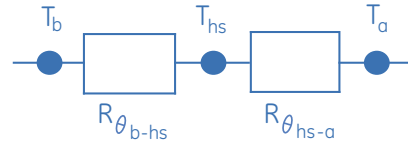

Fig T.6 Series-Thermal Resistance Circuit
Fig. T.6, illustrates a simplified series-thermal resistance circuit model. The circular nodes represent the temperatures at each layer, while the rectangular boxes represent the thermal resistance through a given layer.
Applying Fig T.6 and equation Eq.4 in an example, one (1) Vio 4W LED is mounted to a heatsink. Assuming the total thermal resistance from board to ambient to be 12°C/W (1°C/W $R_{\theta_{b-hs}}$ + 11°C/W $R_{\theta_{hs-a}}$), the ambient conditions to be 25°C, and the forward voltage of the device to be 10.2V at 0.350A, the following calculations can assist a system designer: